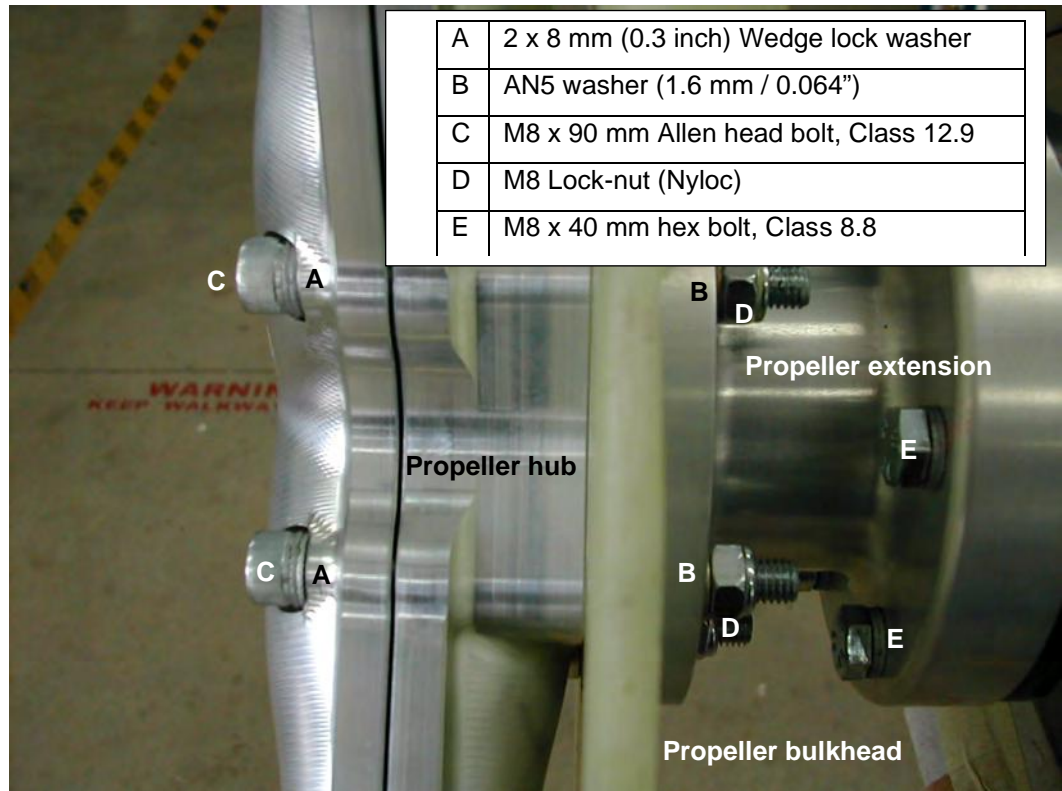

Figure 53: Whirlwind propeller installation.
- Observe washer placement (refer to Figure 53). Torque the bolts / nuts to the correct value (refer to paragraph 1.5.2). Torque in a star pattern / sequence as shown in Figure 48.